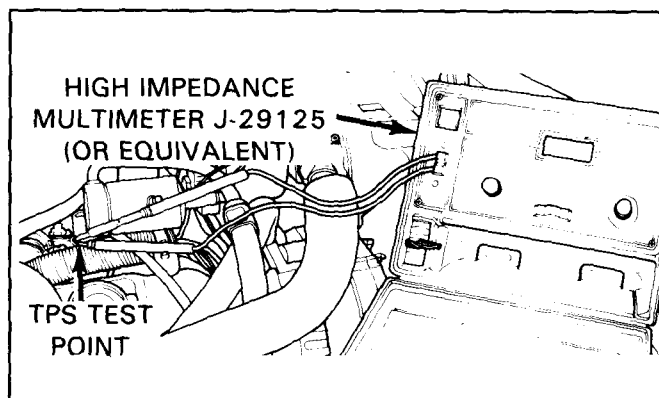

Figure 6D3-7 TPS Test Point
10. If the "throttle angle" value is not "0", disconnect the TPS connector and measure the voltage between terminals B and C of the ECM side of the TPS connector, **Figure 6D3-8**.
11. Reconnect TPS then connect a digital voltmeter to the TPS harness test point as follows: (see **Figure 6D3-7**)
12. With the throttle fully shut against the throttle stop screw, check the voltmeter reading. If the TPS voltage is within .05 volts of the value shown in **Figure 6D3-8**, proceed to step 15.
13. If the TPS voltage does not fall within the above specification, loosen the TPS attachment screws just enough to permit rotation of the sensor. With the throttle fully shut against the throttle stop screw, position the TPS so that the voltmeter reads as shown in **Figure 6D3-8**.